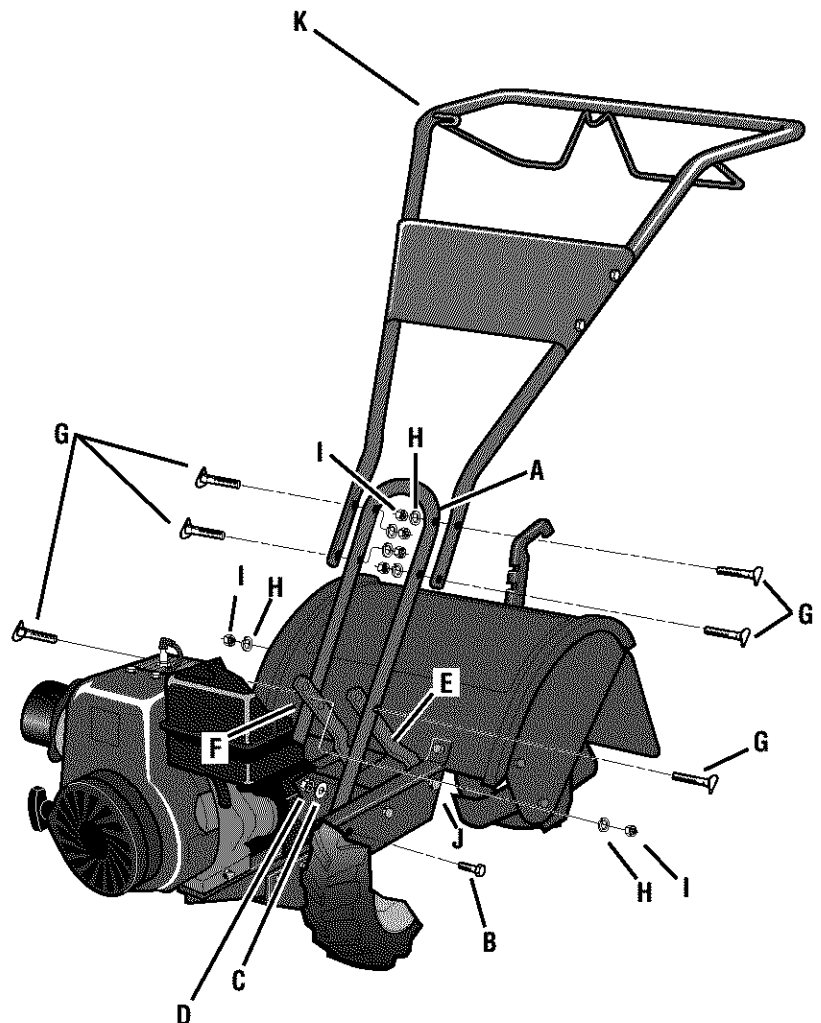

Fig. 2-2: Attach handlebar.
1	Handlebar Support (see A, Fig. 2-2, page 7)
1	Handlebar Assembly (see K, Fig. 2-2)
1. Attach the two legs of the handlebar support (A, Fig. 2-2) loosely to the inner sides of the tiller frame using two 3/8"-16 x 3/4" hex hd. screws (B), 3/8" flat washers (C) and 3/8"-16 hex locknuts (D).
2. Using the middle holes in the handlebar support brackets (E and F, Fig. 2-2), loosely attach the support brackets to the handlebar support (A) using two 5/16"-18 x 1-1/2" curved hd. screws (G), 5/16" split lockwashers (H) and 5/16"-18 hex nuts (I).